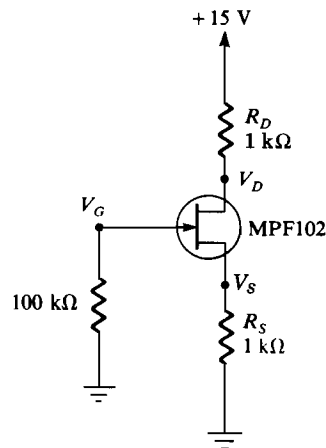

FIGURE 19-1 Schematic diagram of circuit.
2. For the self-biased circuit of Figure 19-1 with $I_{DSS} = 10$ mA and $g_{m0} = 5000$ μ S, the source current is approximately
3. For the self-biased circuit of Figure 19-1 with $I_{DSS} = 10$ mA and $g_{m0} = 5000$ μ S, the gate-to-source voltage is approximately
4. For the self-biased circuit of Figure 19-1 with $I_{DSS} = 10$ mA and $g_{m0} = 5000$ μ S, the JFET forward transconductance g_m at the Q point is approximately
5. For the self-biased circuit of Figure 19-1 with $I_{DSS} = 10$ mA and $g_{m0} = 5000$ μ S, the drain-to-source voltage is approximately